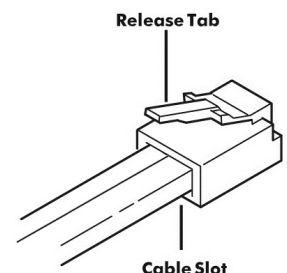

FIGURE 23: RJ-12 Modular Plug
ALWAYS make sure the printed side of the cable is facing away from the release-tab on the RJ-12 Modular Plug (Figure 23). This ensures proper orientation of the plug on each end of the cable.
10. Push down on the release-tab on the RJ-12 Modular Plug (Figure 23) and remove the RJ-12 Modular Plug from the crimping tool.